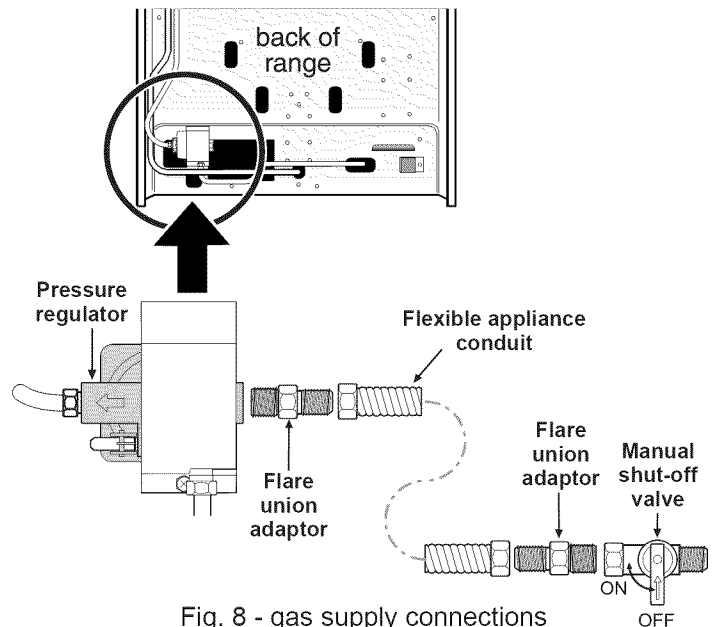

Fig. 8 - gas supply connections
- Install an external manual gas shut-off valve to gas supply line in an accessible location outside of range. Be sure you know where and how to shut off the gas supply to the range (See Fig. 8).
- Install 1/2" flare union adapter to gas pressure regulator using **no more than 15ft./lbs.** of torque (Refer to Fig. 8).
- d. Install flare union adapter to external manual shut-off valve (See Fig. 8).
- e. Attach flexible appliance conduit to flare union adaptor on shut-off valve (See Fig. 8).